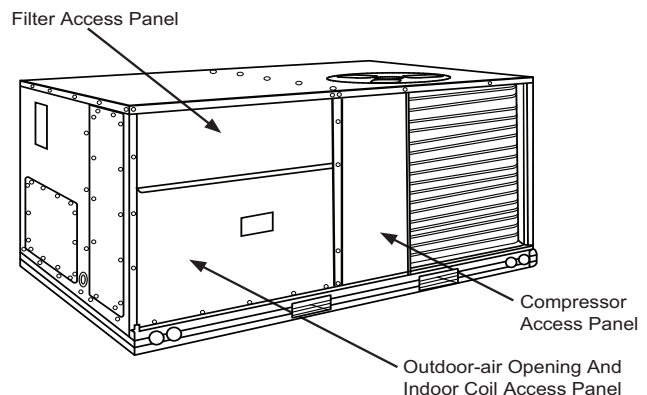

Fig. 2 — Typical Access Panel Locations
2. Remove the existing unit filter access panel. Raise the panel and swing the bottom outward. The panel is now disengaged from the track and can be removed. (See Fig. 2.) Set the filter door aside for re-installation later.
3. Remove the indoor coil access panel and discard. (See Fig. 2.)